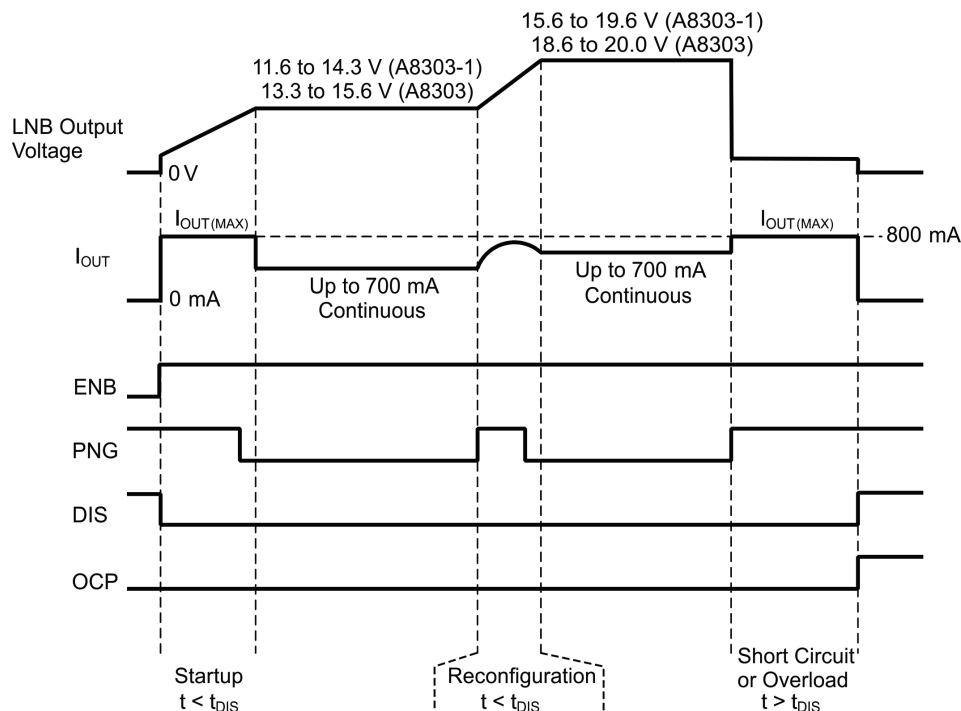

Figure 1. Startup, Reconfiguration, and Short Circuit operation using  $R_{SET} = 37.4 \text{ k}\Omega$ , and a capacitive load
**LNB and BOOST Current Limits.** The LNB output current limit,  $I_{OUT(MAX)}$  can be set by connecting a resistor ( $R_{SET}$ ) from the ISET pin to GND as shown in the applications schematic. The LNB current limit can be set from 300 to 800 mA, corresponding to an  $R_{SET}$  value of 100 to 37.4 k $\Omega$ , respectively. If the LNB current limit is exceeded for more than the Overcurrent Disable Time ( $t_{DIS}$ ) then the A8303 and A8303-1 will be shut down and the OCP bit set, as shown in figure 1. The LNB output current limit can be set as high as 950 mA ( $R_{SET} = 31.6$  k $\Omega$ ) but care should be taken not to exceed the thermal limit of the package or thermal shutdown (TSD) will occur. The typical LNB output current limit can be set according to the following equation:
If the LNB output current exceeds the set output current, for more than 45 ms, then the LNB output will be disabled and the OCP bit will be set. See figure 1.